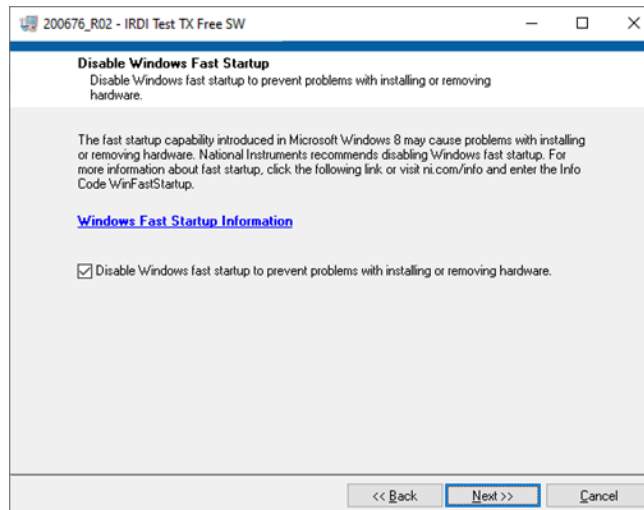

FIGURE 4-8 DISABLE WINDOWS FAST STARTUP
STEP 4	Disable Windows Fast Startup – see Figure 4-8. Click Next >>.